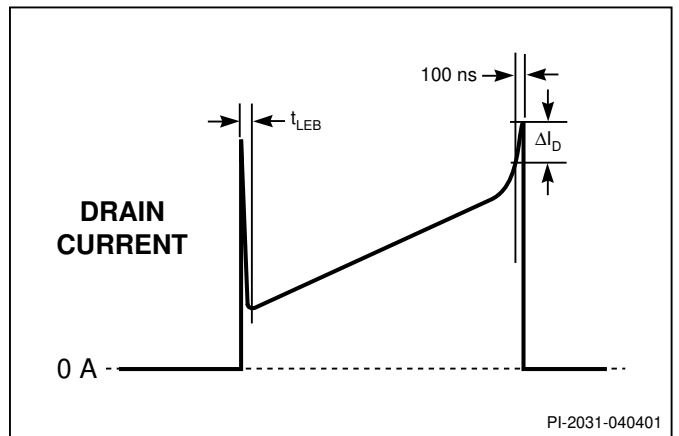

Figure 13. Example of ΔI_D on Drain Current Waveform with Saturated Transformer.
- The transformer should be designed such that the rate of change of drain current due to transformer saturation is within the absolute maximum specification (ΔI_D in 100 ns before turn off as shown in Figure 13). As a guideline, for most common transformer cores, this can be achieved by maintaining the Peak Flux Density (at maximum I_{LIMIT} current) below 4200 Gauss (420 mT). The transformer spreadsheets Rev. 2.1 (or later) for continuous and Rev. 1.0 (or later) for discontinuous conduction mode provide the necessary information.